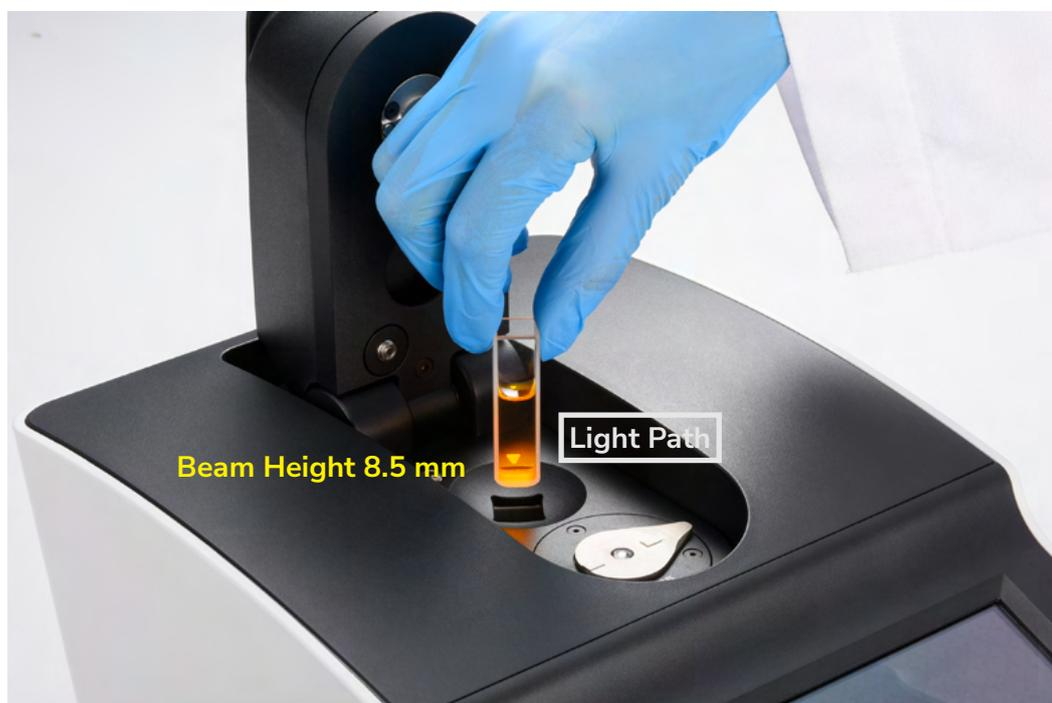

Figure 11. The Light Path Arrow and Beam Height of Cuvette Holder (1000C only)
4. The liquid level in the cuvette should be higher than the instrument optical path, the beam height of which is 8.5 mm. The light-transmitting surface of the cuvette should be in the direction of the arrow on the cuvette holder (Figure 11).
The liquid level in the cuvette should be higher than the instrument optical path, the beam height of which is 8.5 mm. The light-transmitting surface of the cuvette should be in the direction of the arrow on the cuvette holder (Figure 11).